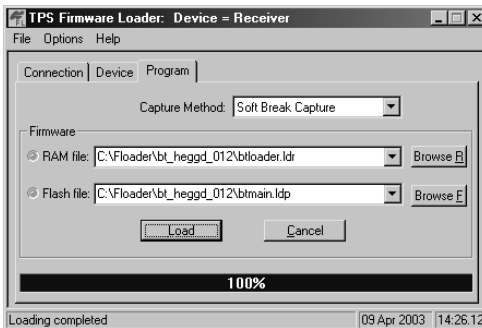

Figure 3-32. Bluetooth Firmware Load Complete
4. Click **Load** and wait until 100% of the files load into your receiver (Figure 3-32).